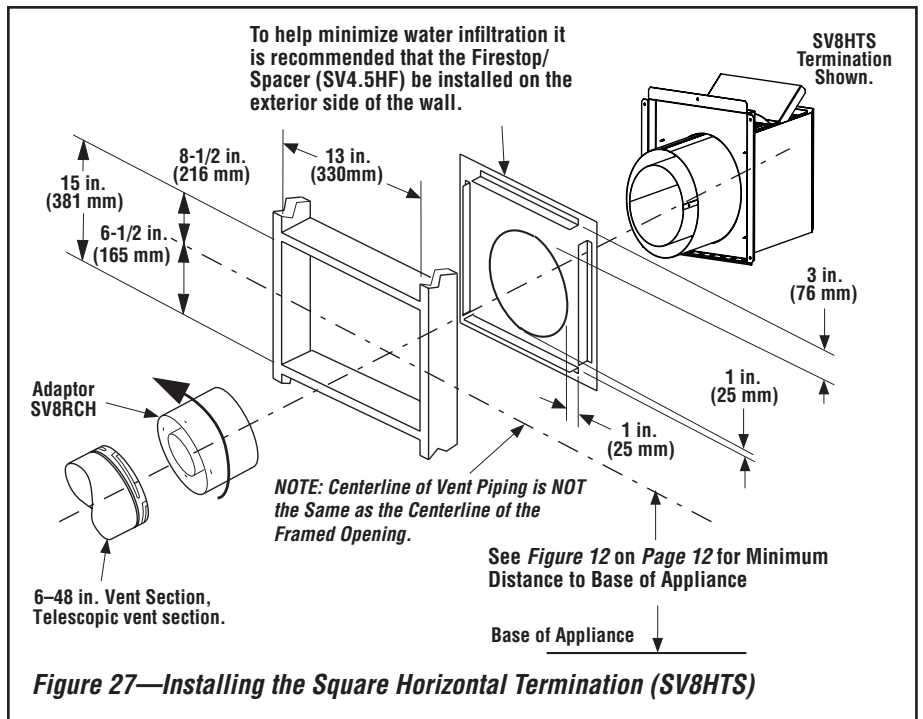

Figure 27—Installing the Square Horizontal Termination (SV8HTS)
K. Attach termination adaptor—Attach the adaptor (adaptor—SV8RCH—provided with the termination) to the vent section or telescoping vent section), or elbow as shown in **Figure 27** in the same manner as any SV vent component (refer to **Step E on Page 19**).
L. Install Firestop/Spacer at exterior wall—When using the square termination, install SV8HF Firestop/Spacer over the opening at the exterior side of the framing, long side up, with the 3" spacer clearance at the top as shown in **Figure 27**, and nail into place.